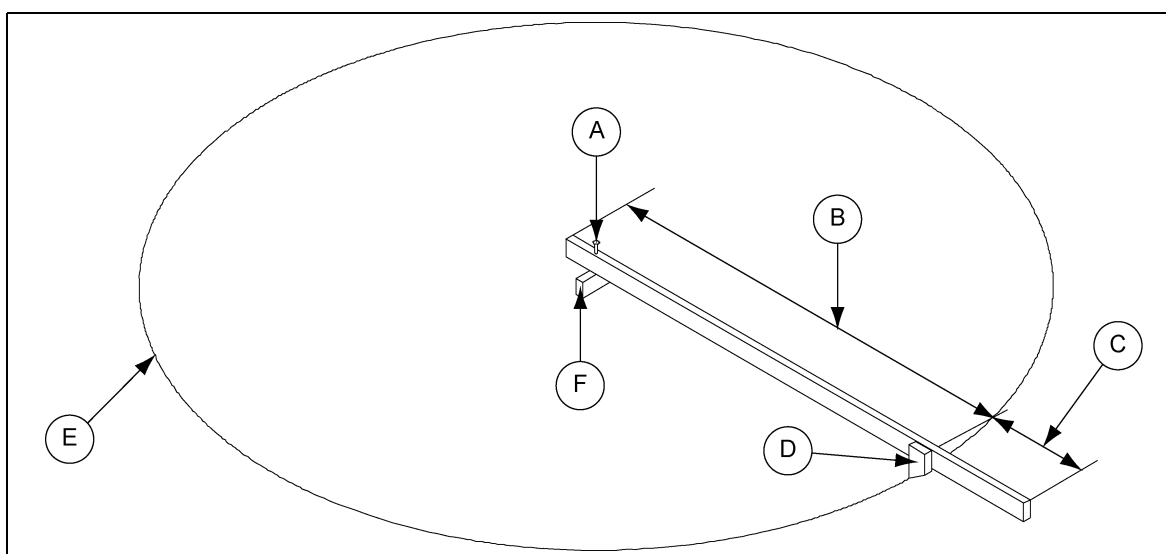

Figure 4A Scribe the Diameter
2. Using one large spike, nail a straight 2 x 4 to the top of the center spike. This 2 x 4 should be approximately two feet (2') longer than the radius of the bin. The swiveling 2 x 4 will act as a compass, enabling you to scribe the correct diameter of the foundation and later locate the anchor and stiffener bolt locations. (See Figure 4A.)